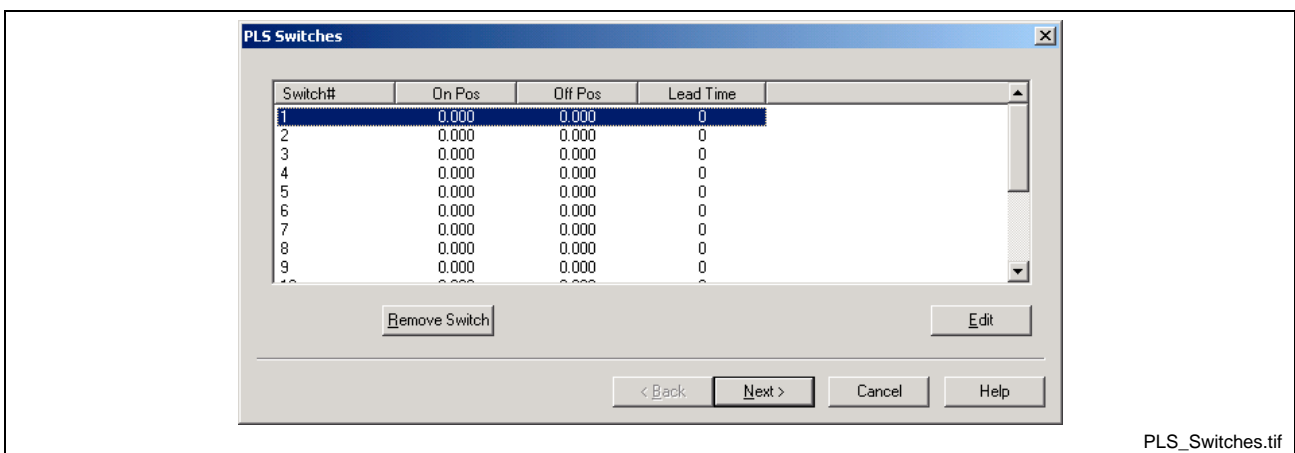

Fig. 8-13: PLS Switches Window
3. From the *PLS Switches* window in Fig. 8-13. Assign a switch's On/Off position and lead time by double clicking on the desired switch number or highlight the switch number and press **Edit**.